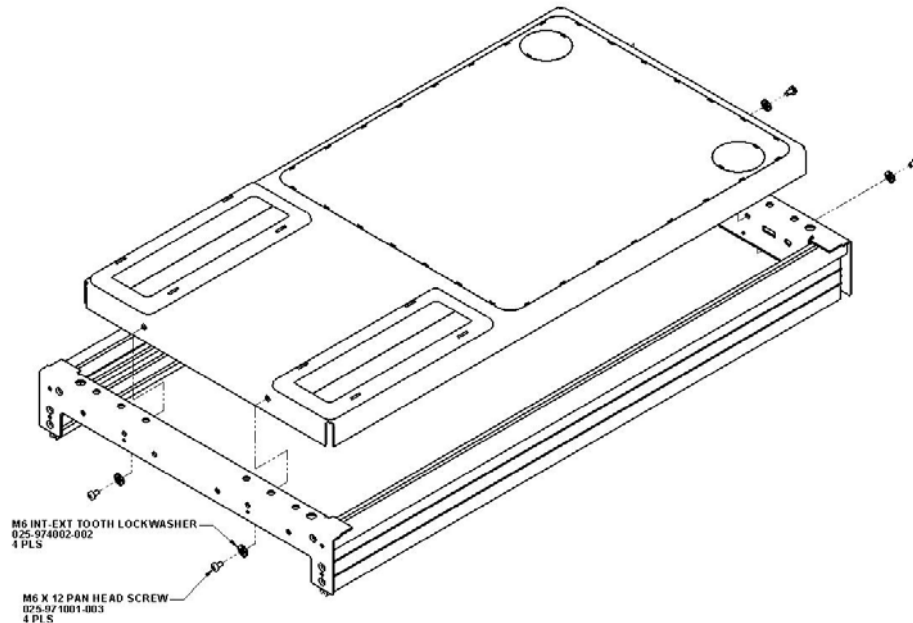

Fig. 2.7 Installing the top panel
2. Attach the top panel to the frame using four M6 Phillips-drive, pan head screws with a special star washer under each screw head. Be sure to use a star washer under each screw head because the washers electrically bond the top panel to the cabinet frame (see Fig. 2.7).